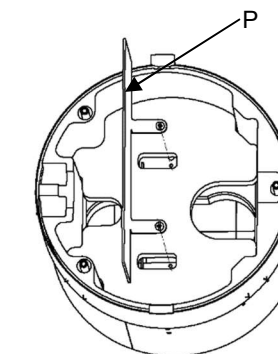

Fig. 9
13. Install divider (P). Note orientation of divider. See Fig. 9. Torque screws to 6-10 in-lbs (0,7-1,1 Nm)